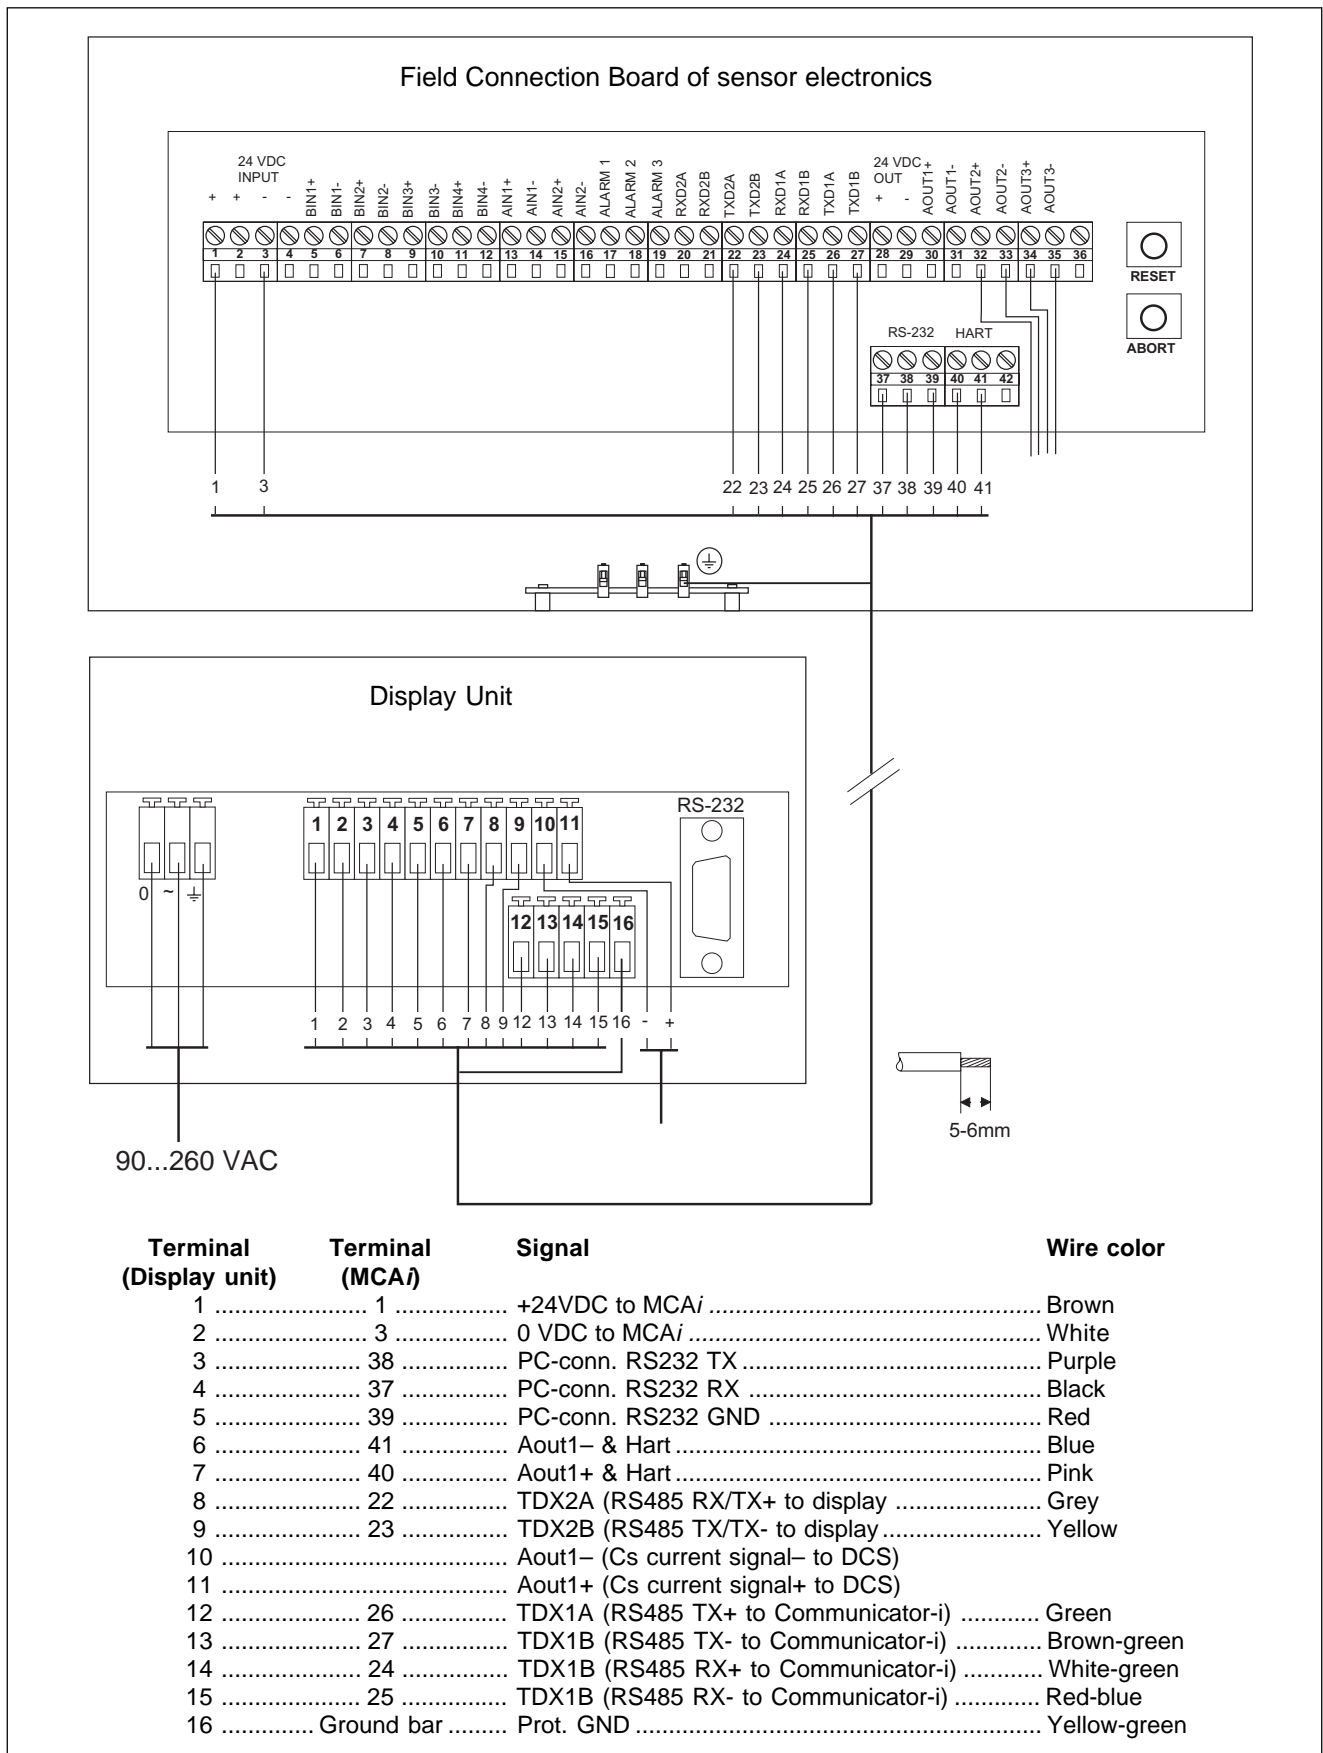

Fig. 3.7. Electric connections.
Electric connections are made on the Field Connection Board as shown in Fig. 3.7, and also the Pt-100 sensor is connected to this board. Reset and Abort buttons are located on one side of the Field Connection Board; these buttons are needed to reset and clear the sensor's memories. Terminals for the Microwave Module's transmitter and receiver are located on the other side of the board. The microwave cables to the antennas are connected to these terminals.
NOTE: Signal connections are illustrated in Fig. 3.7!
2. Connect the wires as shown in Fig. 3.7.
Fig. 3.7 shows the current signal connections:
Connect the mains power, 90...260V, to the terminal located on the left side of the Display Unit housing; see Fig. 3.7.